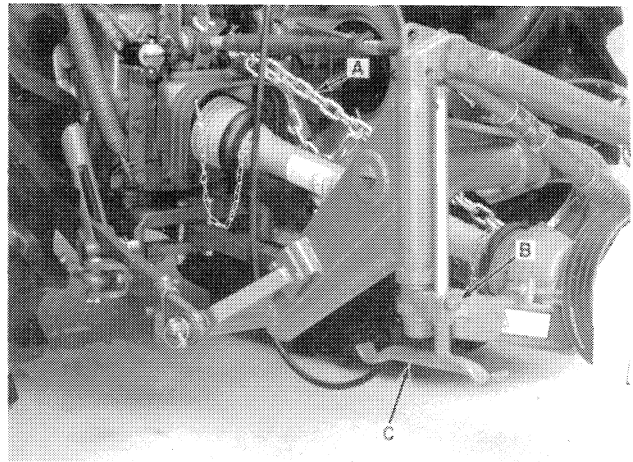
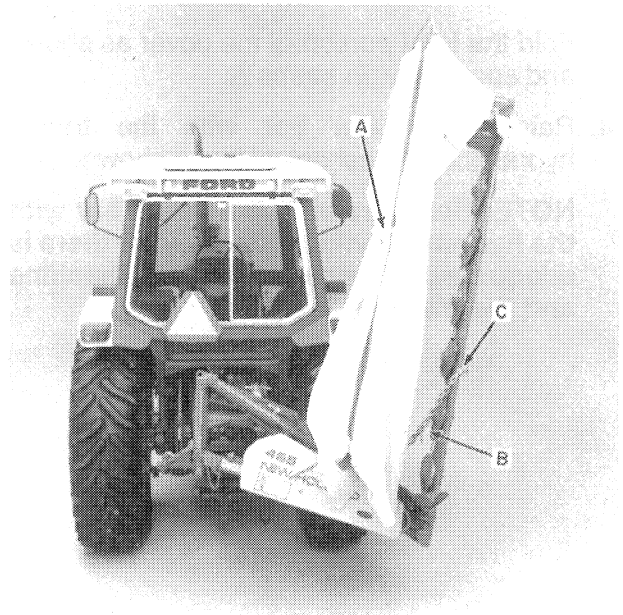

Figure 1-16
Figure 1-17
5. Remove the carrying chain, A, Figure 1-16, from the rear of the tractor and install the chain in the cutter bar support at C, Figure 1-17.